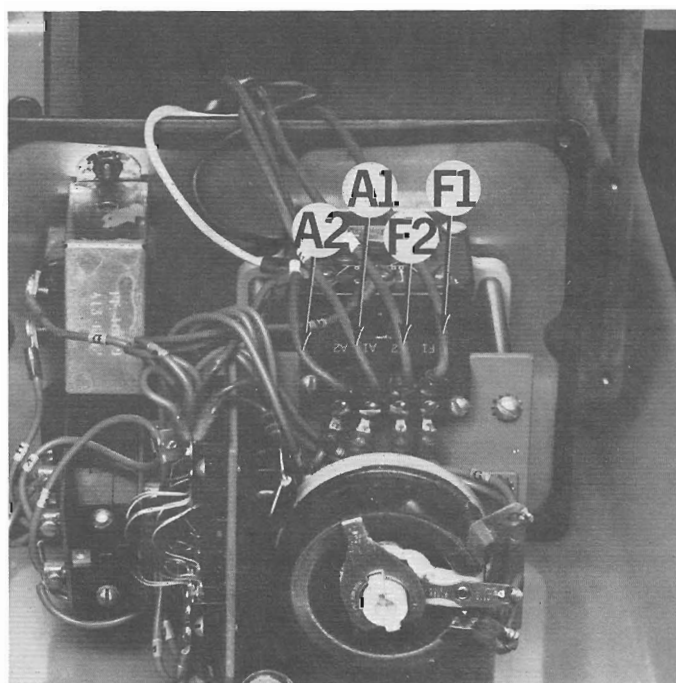

Figure 89 — Power Feed Control Panel
2. Remove four wires F1, F2, A1 and A2, Figure 89.